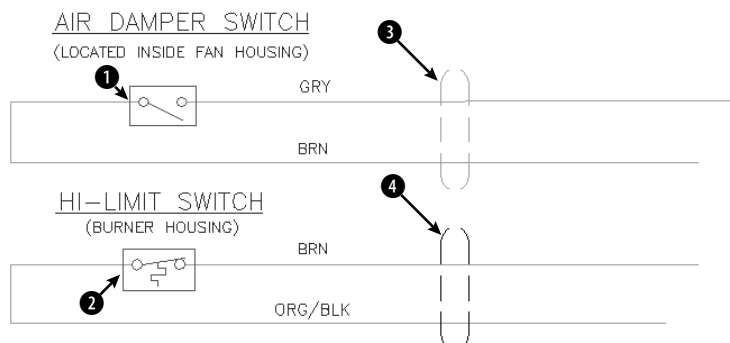

**Figure 18-12:** The electrical schematic has several blocks that have been inserted.
2. Save the file as **ab18-05.dwg** in your AutoCAD Bible folder. This is the same electrical schematic used in the previous exercise, except that the objects are now blocks that have been inserted (see Figure 18-12). OSNAP should be on. Set running object snaps for endpoint, midpoint, quadrant, and intersection. The current layer is Object.
3.  Choose **Explode** from the Modify toolbar. At the **Select objects:** prompt, choose the air damper switch at ❶ in Figure 18-12. Press **Enter** to end selection. The switch turns black or white (the opposite of your screen color) because it was created from objects whose color and linetype were set to **ByBlock**.
6. Choose the **hi-limit** switch at ❷. Choose **Explode** from the Modify toolbar. The command explodes the block onto the **Object** layer because these objects were created on that layer with their color and linetype set to **ByLayer**.